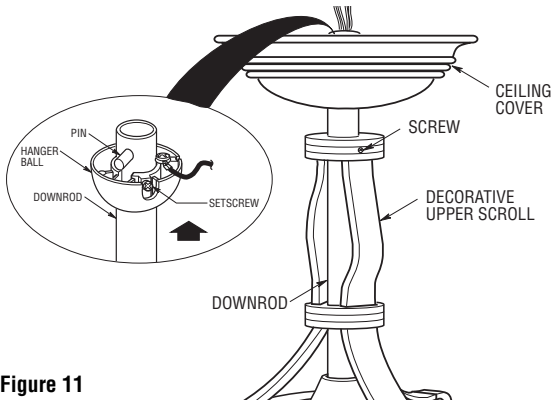

Figure 11
- 23. Slide the decorative upper scroll over the downrod engaging the pin of the decorative lower scroll into one hole of the decorative upper scroll and secure screw in collar of the decorative upper scroll (Figure 11).
- 24. Position the ceiling cover over the downrod. Be sure the cover is oriented correctly, with the large opening at the top (Figure 11).
- 25. Reinstall the hanger ball on the downrod as follows. Route the motor leads through the hanger ball and slide the hanger ball over the downrod (Figure 11). Install the pin through the holes at the top of the downrod and slide the hanger ball up the downrod, aligning the ball so the pin is captured in the groove in the top of the hanger ball. Pull the hanger ball up tight against the pin and securely tighten the setscrew in the hanger ball. A loose setscrew could create fan wobble.